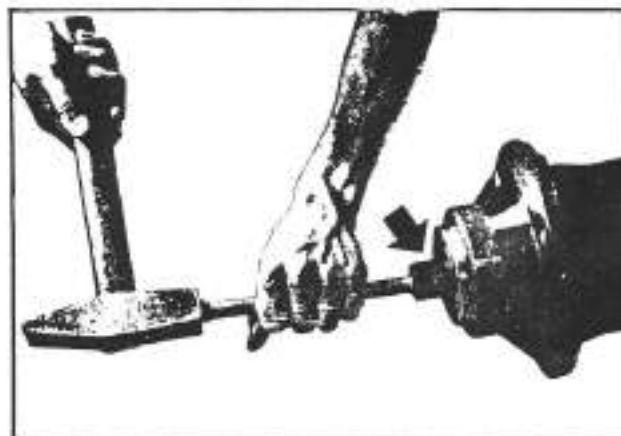
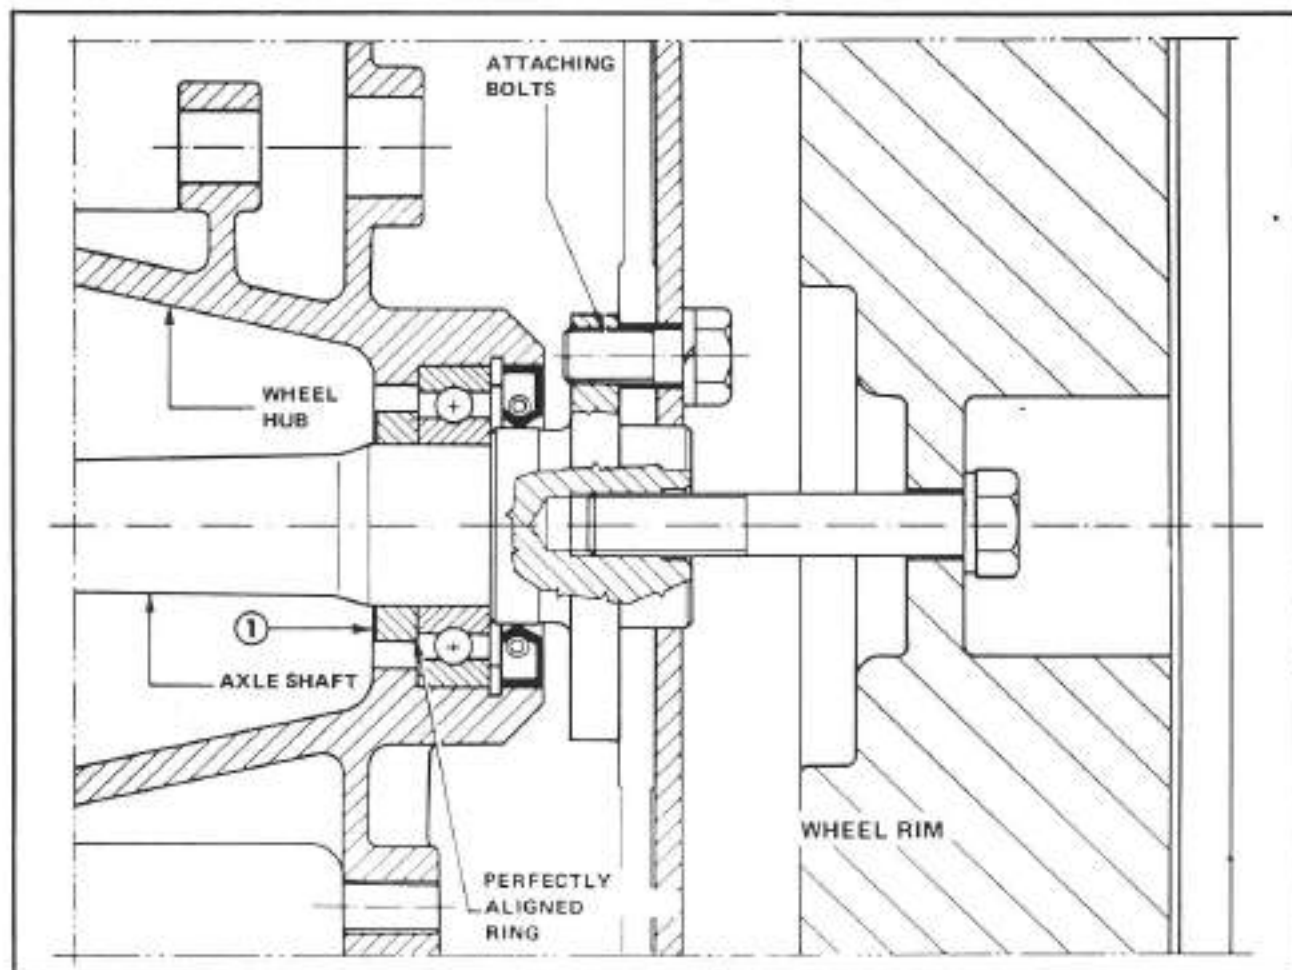
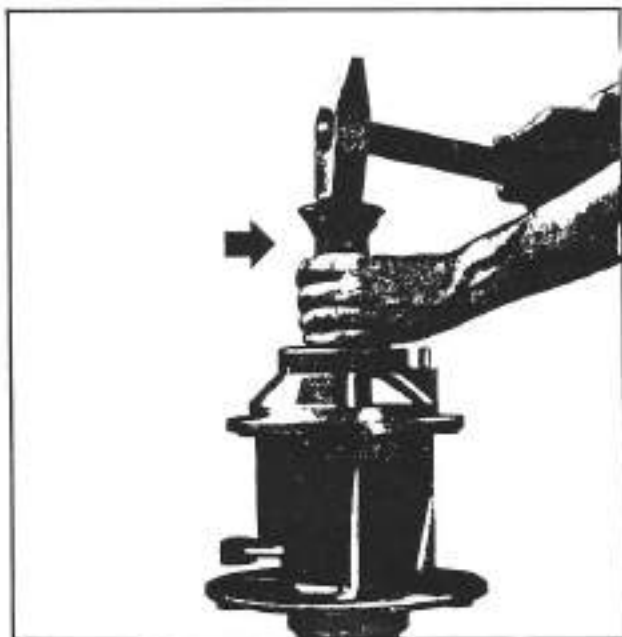

Fig. 3-52. Extraction of axle shaft
Fig. 3-53. Axle shaft locking ring
Fig. 3-56. Remounting of the locking ring on the axle shaft
- Using a hammer and a punch (see figure 3-52) push out the axle shaft and locking ring (1; fig. 3-53) which should have come off and fallen inside the hub.
- In order to remount the locking ring (1; fig. 3-53) it is necessary to heat it to a temperature of 180 to 200°C (355 to 390°F) (blue color). Put the locking ring over the axle shaft and let it fall in place (see figure 3-55). Using a hammer and a piece of metal tube (see figure 3-56) of the correct diameter, align the ring perfectly on the axle shaft, in contact with the bearing. Let cool.